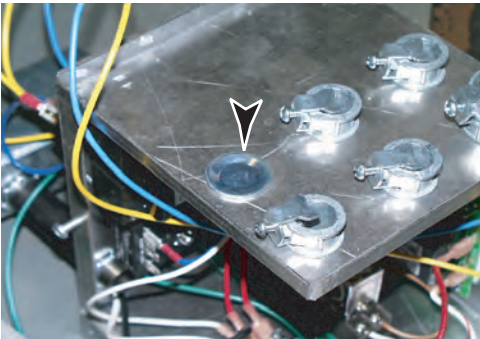
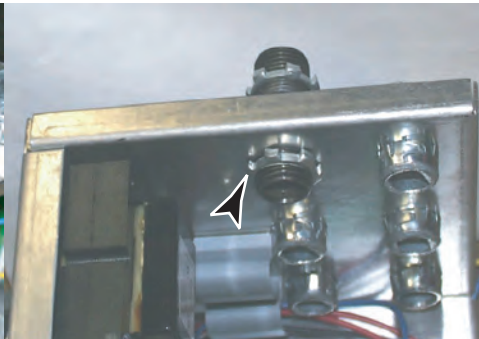

Fig.3
Fig.4
4. Thread (1 per end) 1/2" Electric Nut (item 9) onto ends of 2" Nipple (item10) for use as backing nuts. Insert Nipple into knock-out located on top of the electrical enclosure at the pressure switches (see Fig.3) and secure the nipple to the enclosure using 1/2" Electric Nut as shown (Fig.4).